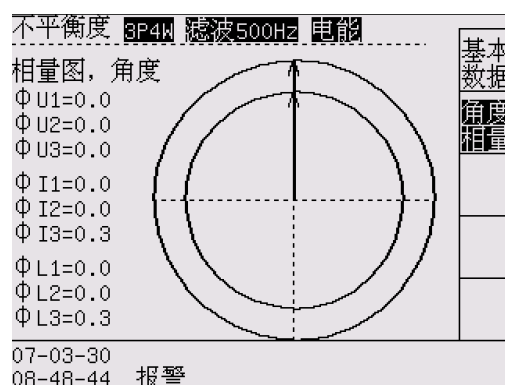

Figure 8-2 Angle phasor
Angle phasor---phasor graph and angle. (Figure 8-2)
3.3 Angle phasor screen (Figure 8-2)